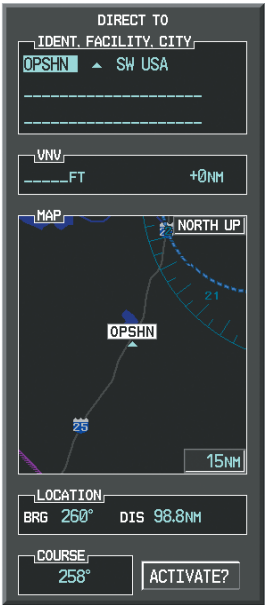

Figure 7-26 Direct To OPSHN
- c) Press the **Direct-to** (**D**➔) Key. The Direct-to Window is now displayed as shown in Figure 7-26.